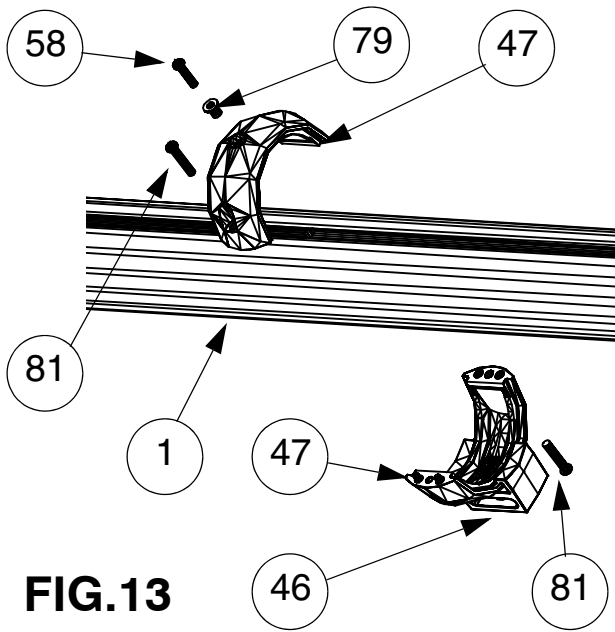
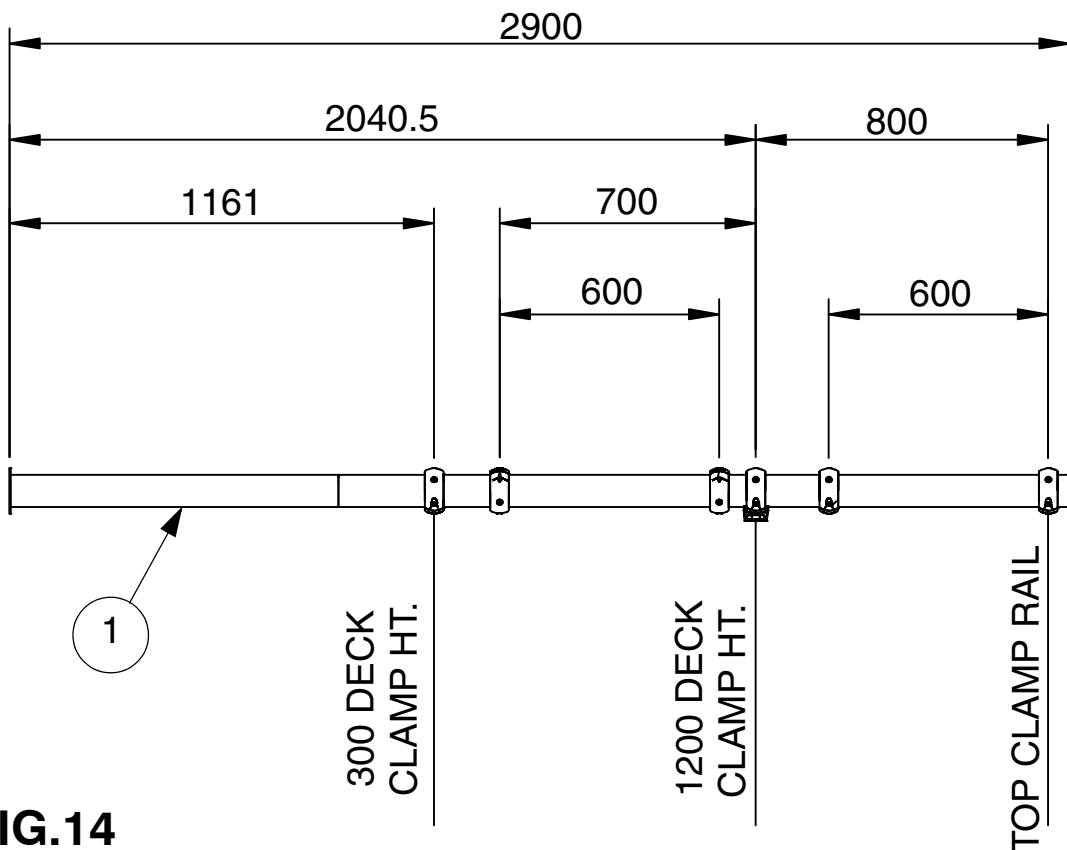
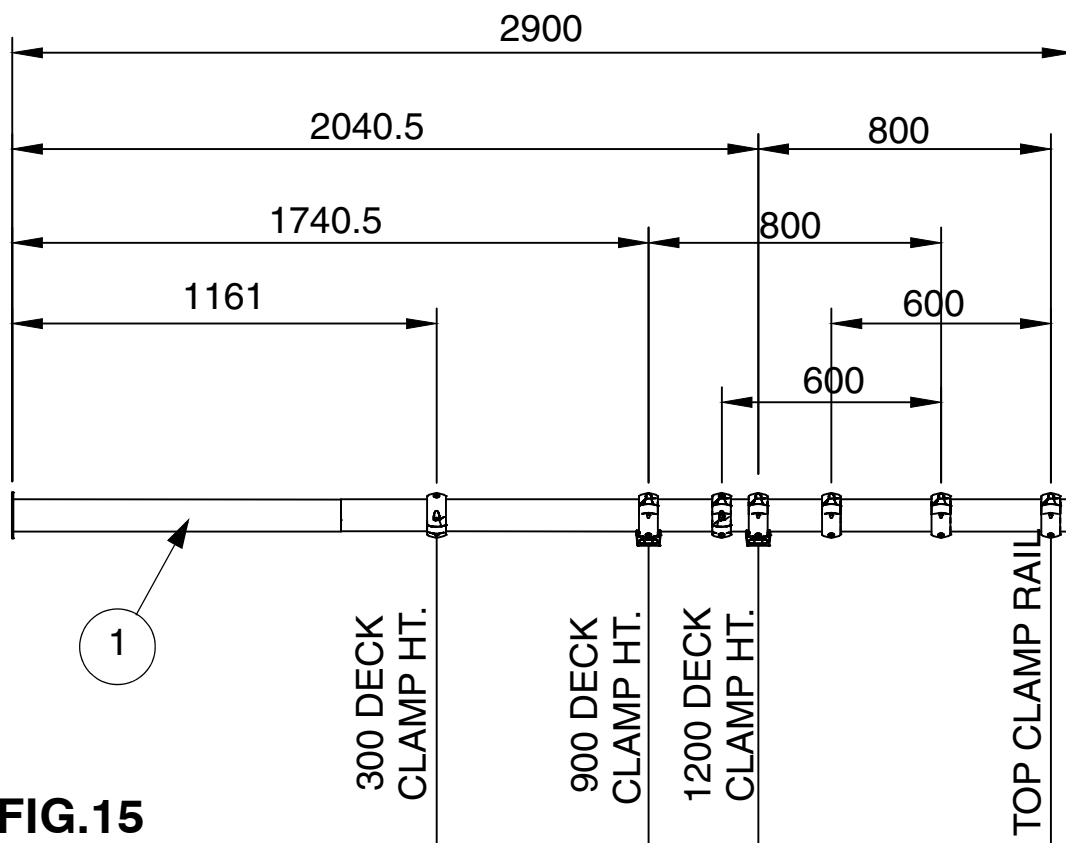
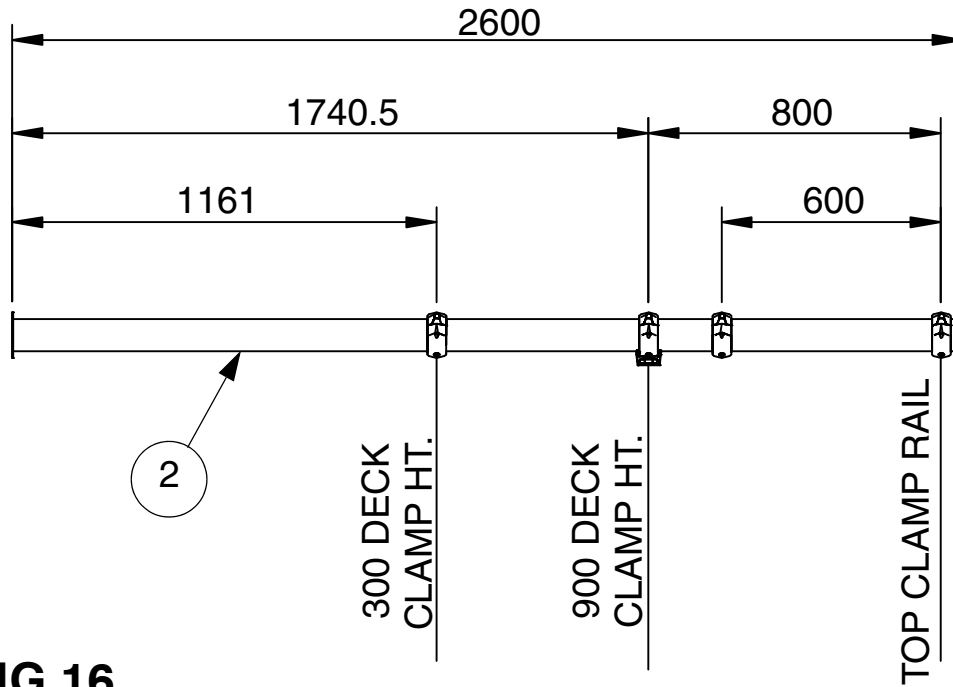

FIG.13
FIG.14
FIG.15
FIG.16
- 9) Assemble to 1 off Straight Leg - 1200 deck (item 1) 2 off Clamp Rings (half) (item 47) at the pre-inserted hole position for the 300 Deck Clamp Ht. See FIG.14 & FIG.A.
- 10) Assemble to 1 off Straight Leg - 1200 deck (item 1) 2 off Clamp Rings (half) (item 47) and 1 off Deck Support Casting (item 46) at the pre-inserted hole position for the 1200 high deck. See FIG.13 & 14.
- i) For assembly method see Note 4.4, 1), i) to iii) ensuring that the Deck Support Casting (item 46) is slotted over one of the Clamp Ring (half) before assembling the second Clamp Ring (half).
- 11) Assemble to 1 off Straight Leg - 1200 deck (item 1) 2 off Clamp Rings (half) (item 47) at the pre-inserted hole position for the top clamp rail. See FIG.14 & FIG.A.
- 12) Assemble to 1 off Straight Leg - 1200 deck (item 1) 2 off Clamp Rings (half) (item 47) at 600 position down from the top clamp rail. Align Clamp Ring (half) radially to match with other rings on the post. See FIG.14 & FIG.B.
- 13) Assemble to 1 off Straight Leg - 1200 deck (item 1) 2 off Clamp Rings (half) (item 47) at 700 position down from the 1200 Deck Clamp Ht. Align Clamp Ring (half) radially to match with other rings on the post. See FIG.14 & FIG.B.
- 14) Assemble to 1 off Straight Leg - 1200 deck (item 1) 2 off Clamp Rings (half) (item 47) at 600 position up from the previous Clamp Ring (half). Align Clamp Ring (half) radially to match with other rings on the post. See FIG.14 & FIG.B.
- 15) Assemble to 1 off Straight Leg - 1200 deck (item 1) 2 off Clamp Rings (half) (item 47) 1 off Deck Support Casting (item 46) at the pre-inserted hole position for the 900 Deck Clamp Ht. See FIG.13 & 15.
- 16) Assemble to 1 off Straight Leg - 1200 deck (item 1) 2 off Clamp Rings (half) (item 47) and 1 off Deck Support Casting (item 46) at the pre-inserted hole position for the 1200 Deck Clamp Ht. See FIG.13 & 15.
- 17) Assemble to 1 off Straight Leg - 1200 deck (item 1) 2 off Clamp Rings (half) (item 47) at the pre-inserted hole position for the top clamp rail. See FIG.15 & FIG.A.
- 18) Assemble to 1 off Straight Leg - 1200 deck (item 1) 2 off Clamp Rings (half) (item 47) at 600 position down from the top clamp rail. Align Clamp Ring (half) radially to match with other rings on the post. See FIG.15 & FIG.B.
- 19) Assemble to 1 off Straight Leg - 1200 deck (item 1) 2 off Clamp Rings (half) (item 47) at 800 position up from the 900 Deck Clamp Ht. Align Clamp Ring (half) radially to match with other rings on the post. See FIG.15 & FIG.B.
- 20) Assemble to 1 off Straight Leg - 1200 deck (item 1) 2 off Clamp Rings (half) (item 47) at 600 position down from the previous Clamp. Align Clamp Ring (half) radially to match with other rings on the post. See FIG.15 & FIG.B.
- 21) Assemble to 1 off Straight Leg - 1200 deck (item 1) 2 off Clamp Rings (half) (item 47) at the pre-inserted hole position for the 300 Deck Clamp Ht. See FIG.15 & FIG.A.
- 22) Assemble to 1 off Straight Leg - 900 deck (item 2) 2 off Clamp Rings (half) (item 47) at the pre-inserted hole position for the 300 Deck Clamp Ht. See FIG.16 & FIG.A.
- 23) Assemble to 1 off Straight Leg - 900 deck (item 2) 2 off Clamp Rings (half) (item 47) and 1 off Deck Support Casting (item 46) at the pre-inserted hole position for the 900 Deck Clamp Ht. See FIG.13 & 16.
- 24) Assemble to 1 off Straight Leg - 900 deck (item 2) 2 off Clamp Rings (half) (item 47) at the pre-inserted hole position for the top clamp rail. See FIG.16 & FIG.A.
- 25) Assemble to 1 off Straight Leg - 900 deck (item 2) 2 off Clamp Rings (half) (item 47) at 600 position down from the top clamp rail. Align Clamp Ring (half) radially to match with other rings on the post. See FIG.16 & FIG.B.
- 29) Place 1 off Straight Leg - 1200 deck (item 1) (as seen in FIG.14) into appropriate foundation and connect each to Deck Frame (item 4) at 1200 deck height using 1 off 1/2" x 1" BHCS fixing (item 80) and T5 washer (item 62) via Deck Support Casting (item 46). See FIG.2, 17 & 18.
- 30) Place 1 off remaining Straight Leg - 1200 deck (item 2) (as seen in FIG.15) into appropriate foundation and connect to Deck Frame (item 4) at 1200 deck height using 1 off 1/2" x 1" BHCS fixing (item 80) and T5 washer (item 62) via Deck Support Casting (item 46). See FIG.2, 17 & 18.